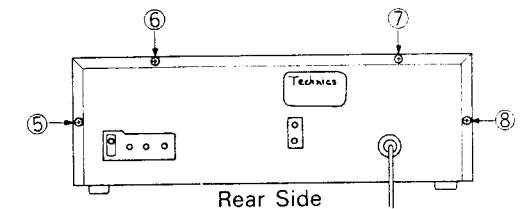

Fig. 6
2. Remove the 4 screws. (nos. ⑤ ~ ⑧ screws in fig. 6).